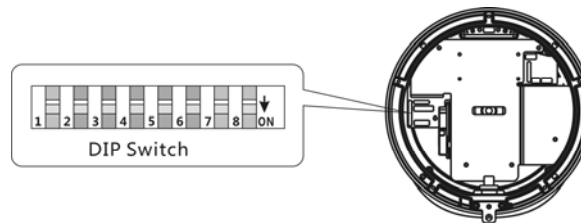

Fig. 1: DIP Switch
- DIP Switch: The switches to configure these settings are located on the main board inside the camera. See Fig. 1: DIP Switch.